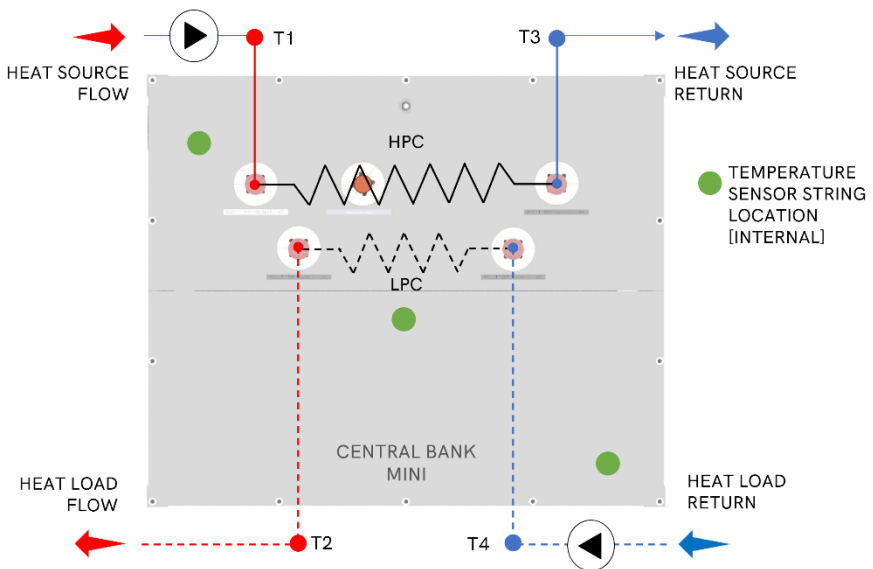

Figure 6: Thermal battery Control logic and hydronic setup
4. See Figure 6 for temperature sensor locations.
Pipe sensors can be attached to the inlet and outlet port pipework as necessary, but it is recommended that a sensor is installed inline with the working fluid for more accurate results. Examples of the positions are shown in Figure 6, labelled T1, T2, T3 and T4.
- Identify the appropriate installation method for Hydraulic requirements listed in Section 4.1, Figures 6, 7 and 8.
- Connect all temperature sensors, T1, T2, T3 & T4 in their appropriate locations as detailed in (Figure 6).
- Ensure all the temperature sensors T1, T2, T3 & T4 have been located in their appropriate positions on the pipework, as detailed in Figures 6, 7 & 8.